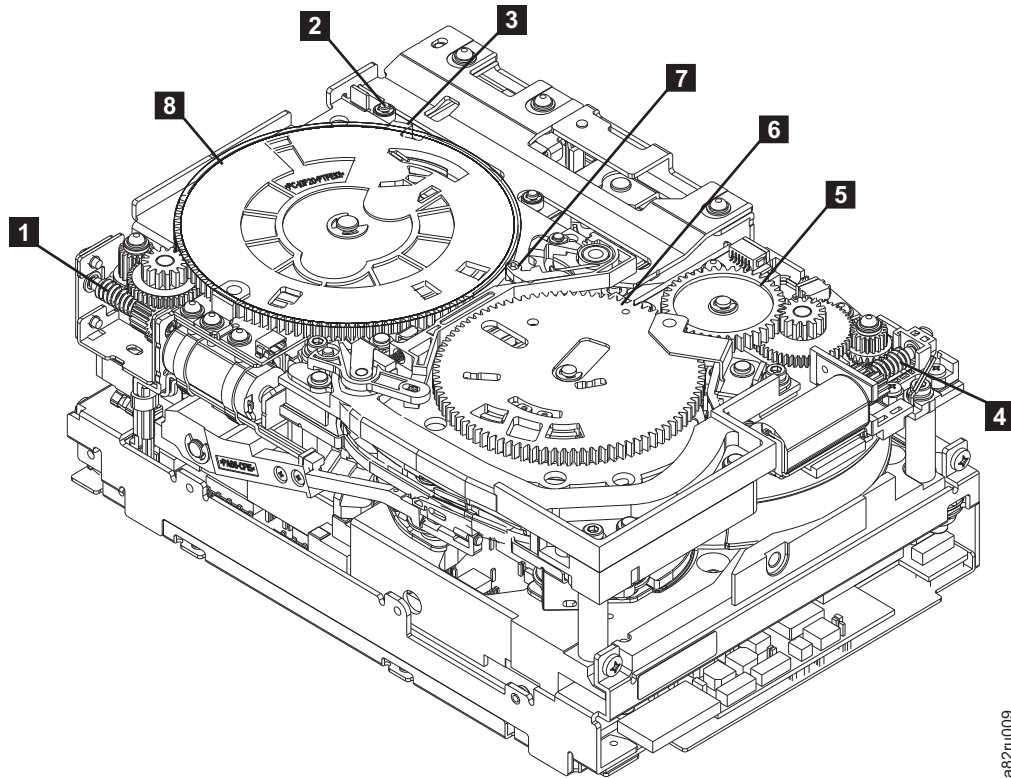
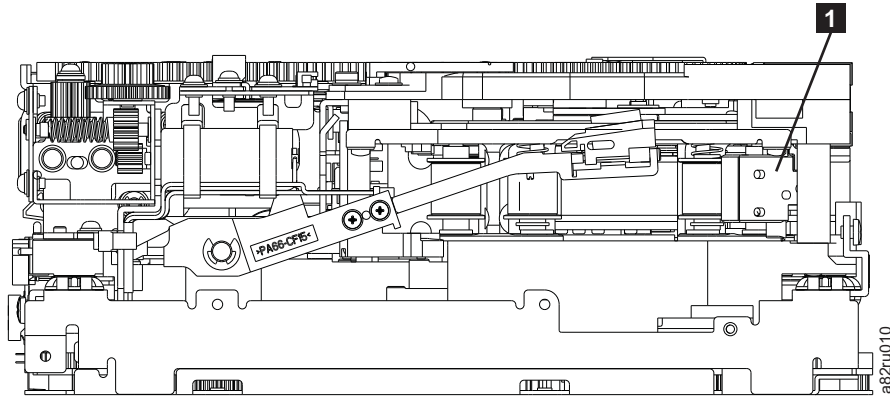

Figure 202. Drive with cover removed to reveal gear train.
Figure 203. Leader Block Assembly (LBA)
6. Locate the threader motor worm gear (**4** in Figure 202 on page 273) on the rear of the drive. Use your finger to rotate the threader motor worm gear and slowly rotate the threader mechanism gear (**6** in Figure 202 on page 273) clockwise. This action rotates the threader motor worm gear (**4** in Figure 202 on page 273) clockwise, drawing the LBA into the cartridge.
7. As the tape leader block assembly (LBA) is secured in the cartridge, you hear the LBA retention spring clips click into place. If you do not hear the click, continue rolling until the threader motor worm gear (**4** in Figure 202) stops. The LBA is in the correct position.
- a. Loader mechanism gear (**6** in Figure 202) nearest the front of the drive that actuates the cartridge loader mechanism.
- b. Position of the rotate stub (**3** in Figure 202).
- c. Front loader motor worm gear (**1** in Figure 202). Rotating this gear allows the loader mechanism gear (**8** in Figure 202) to turn.
9. Rotate the loader motor worm gear (**1** in Figure 202) to turn the threader mechanism gear (**6** in Figure 202) counterclockwise. Continue turning until the rotator stub (**3** in Figure 202) loses contact with the lever (**7** in Figure 202). This action releases the LBA leader pin.
10. Rotate the threader motor worm gear (**4** in Figure 202 on page 273) to turn the threader mechanism gear (**6** in Figure 202 on page 273) counterclockwise. This action moves the LBA out of the cartridge and past the read/write head. Stop this rotation when the LBA is near the tape guide roller nearest the rear of the drive that is shown as **1** Figure 203.
11. Continue rotating the loader motor worm gear (**1** in Figure 202 on page 273) until the rotator stub (**3** in Figure 202 on page 273) is positioned as shown. Notice that the rotator stub (**3** in Figure 202 on page 273) is nearly aligned with the cartridge loader tray guide bearing (**2** in Figure 202 on page 273).